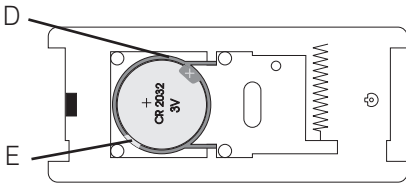

Figure 2: Battery compartment doorbell pushbutton
- e) Insert the battery (coin cell CR 2032) into the plastic support on the PCB (fig. 2 D).
- f) If you would like to replace a battery, remove the old one with a small flat screwdriver from its plastic support by lifting the edge slightly (fig. 2 E). Afterwards you can insert a new battery. Kindly ensure correct polarity of the battery.